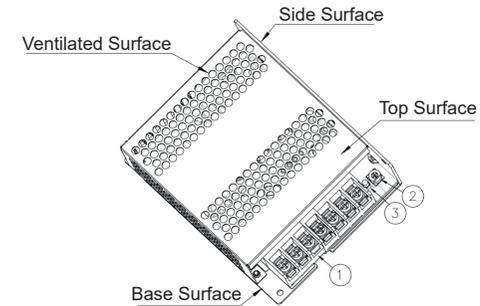

Figure 1 - Device Descriptions
2. Device Descriptions (Fig. 1)